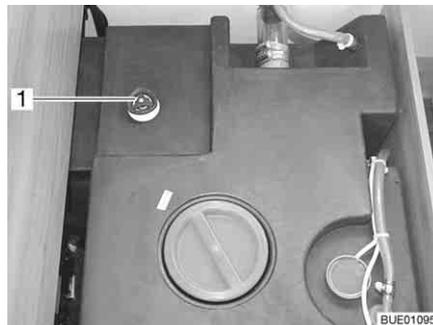

Fig. 245 Water tank with handle
- Turn the handle (Fig. 245, 1) on the water tank in an anticlockwise direction as far as possible beyond the resistance to fully open the drainage opening.